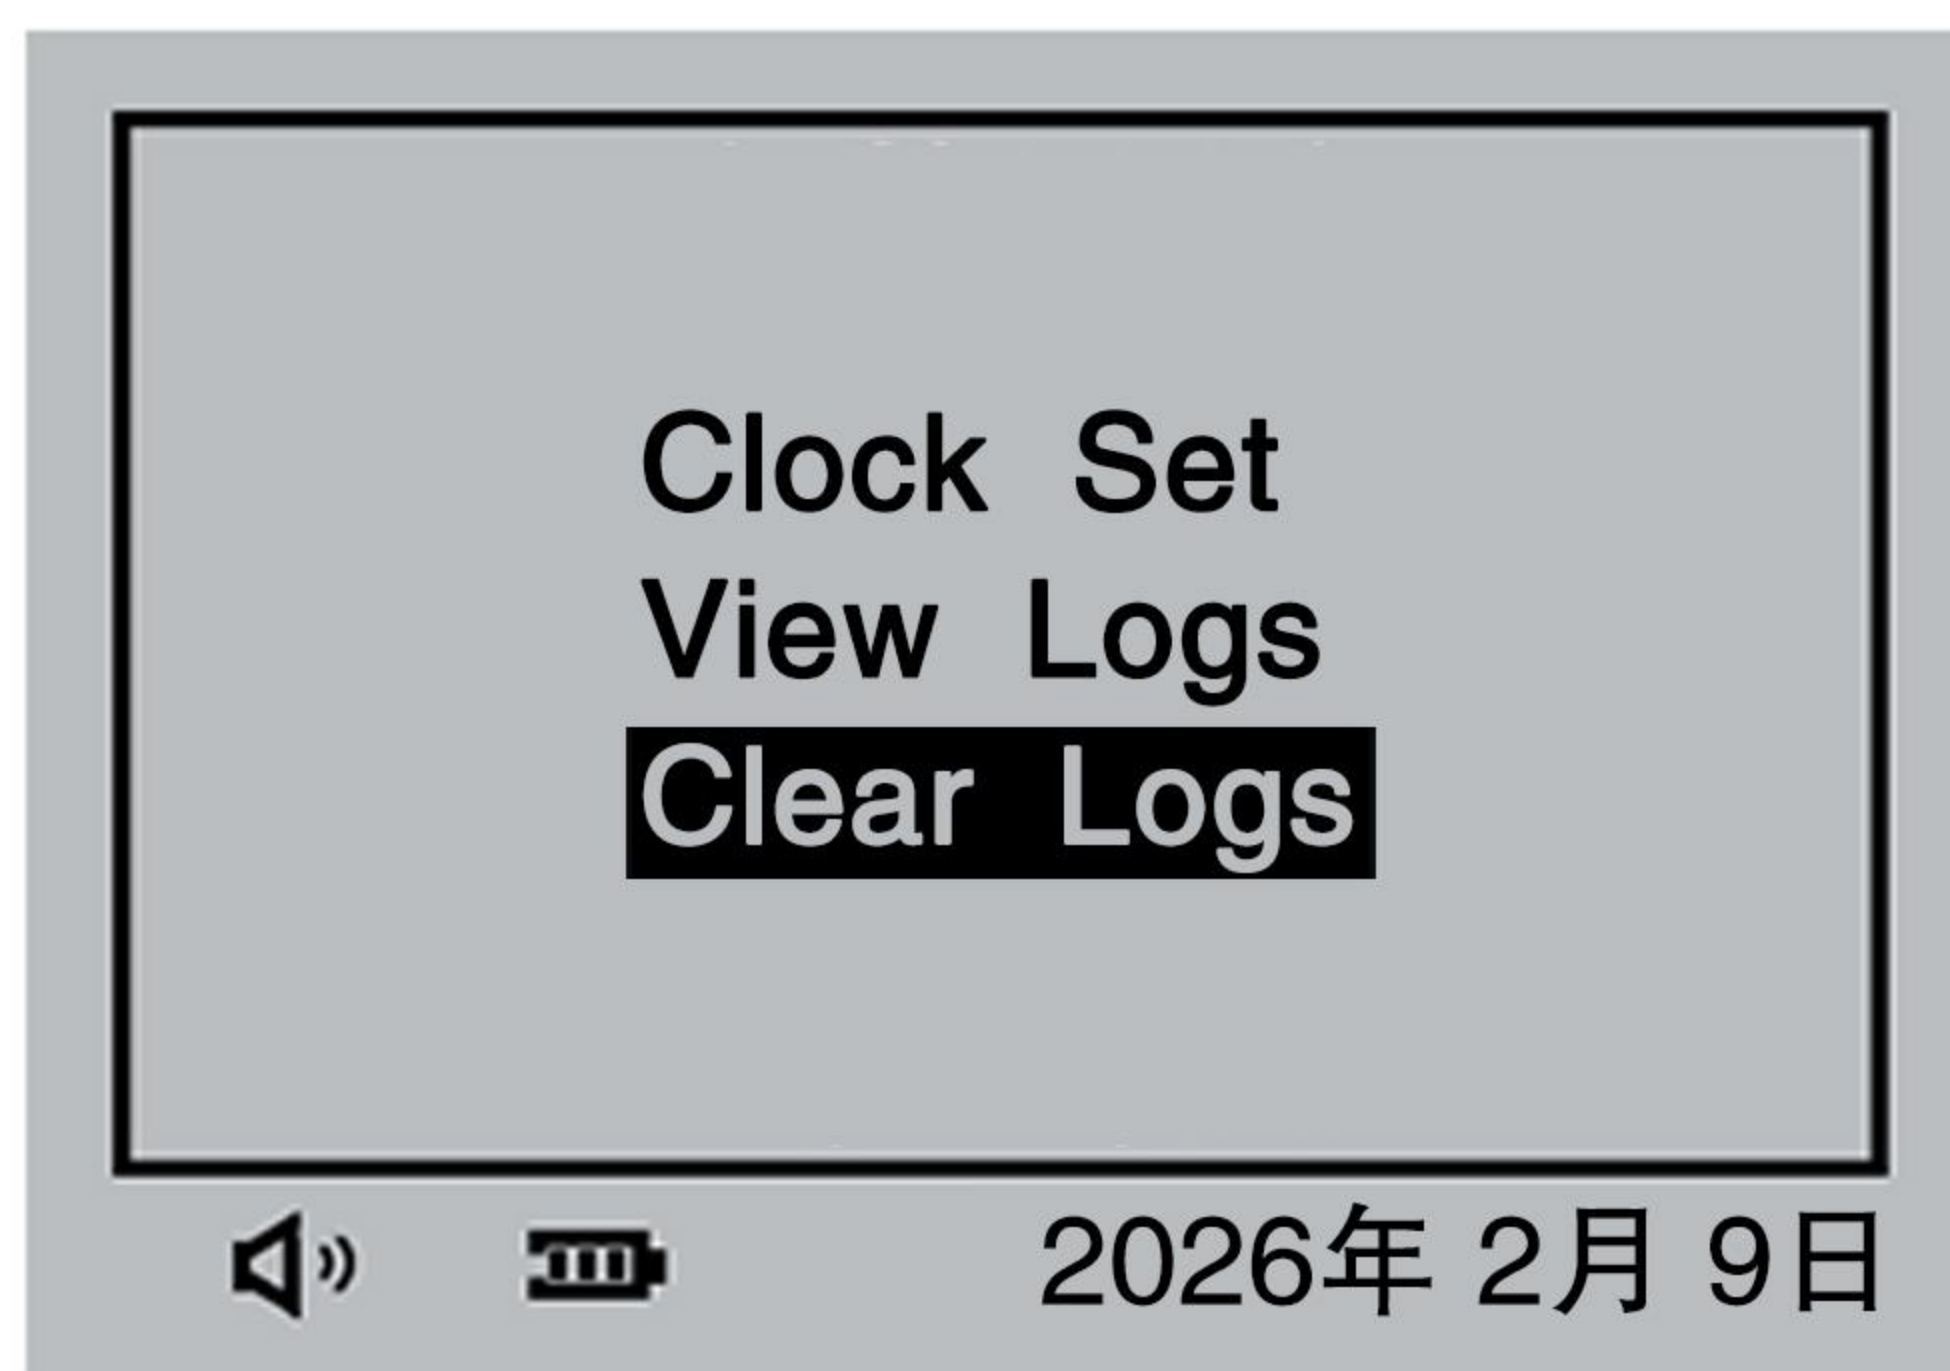

Figure 28
● In the state shown in Figure 24, use the "▲" or "▼" keys to select the "Clear Records" option (see Figure 28), then press "①" to enter Figure 29. Use "▲" or "▼" to select "Start" or "Abort". If you select "Start", press "①" to enter the interface shown in Figure 30. After waiting a few seconds, the system will automatically return to Figure 28.